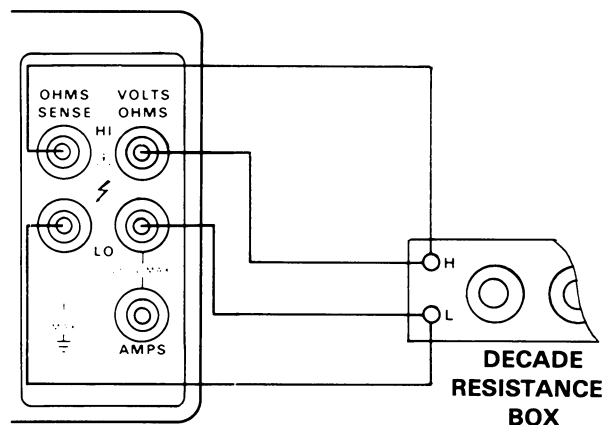

Figure 5-5. Connections for Temperature Verification
1. Connect the precision decade resistance box to the Model 195A as shown in Figure 5-5. Four wire connections must be used as shown on the diagram. Make sure the INPUTS switch is in the front panel position and that the instrument is programmed for 4-wire operation.